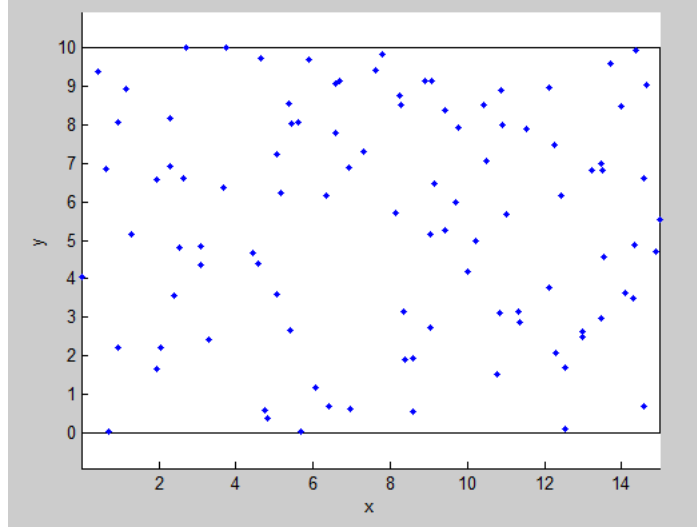

Figure 3 - Randomly generated robot poses on the map
Step 1. First we generate a set of n random robot positions on the map, using `rand(n)`, these robot locations are our inputs, as shown in **Figure 3**.